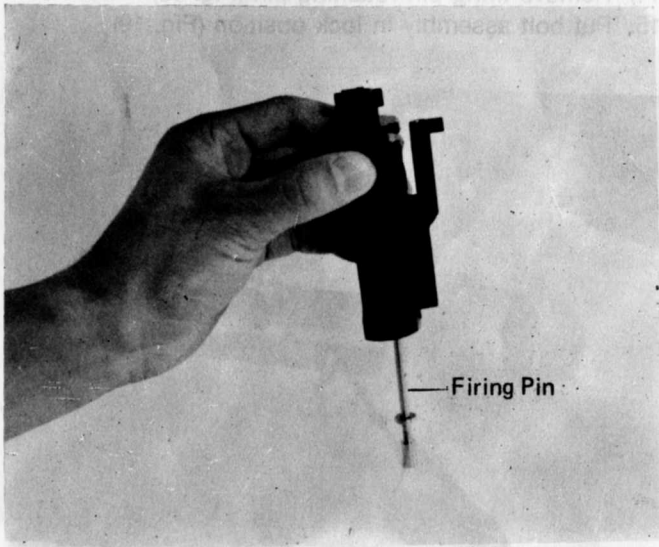

Fig. 20
16. Remove firing pin through rear of bolt carrier. (Fig. 20)